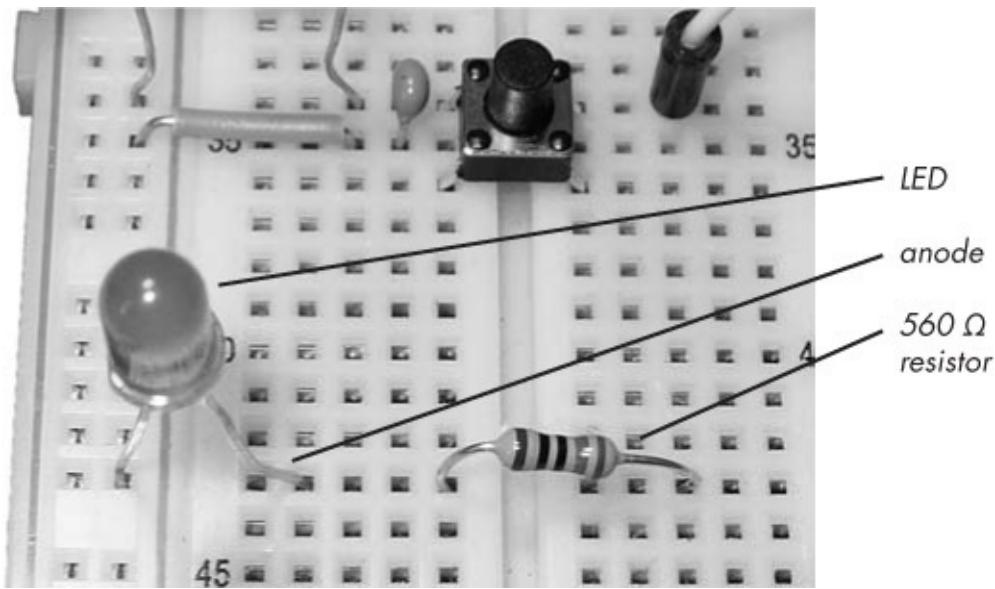

Figure 4-24. Inserting the LED and $560\ \Omega$ resistor
5. Insert the LED into the breadboard with the short leg (the cathode) connected to the GND column, and the long leg (the anode) in a row to the right. Next, connect the $560\ \Omega$ resistor to the right of the LED, as shown in Figure 4-24.